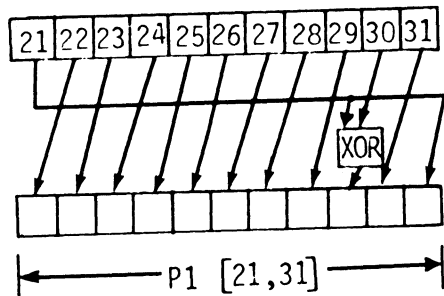

Figure 3-7. Rotation and Exclusive OR of P1
- 5) Rotate P1 and "exclusive OR" bit 30 with bit 21 M times until P1 (bits 21-31) are equal to the error pattern. See Figure 3-7 for an illustration of this procedure.